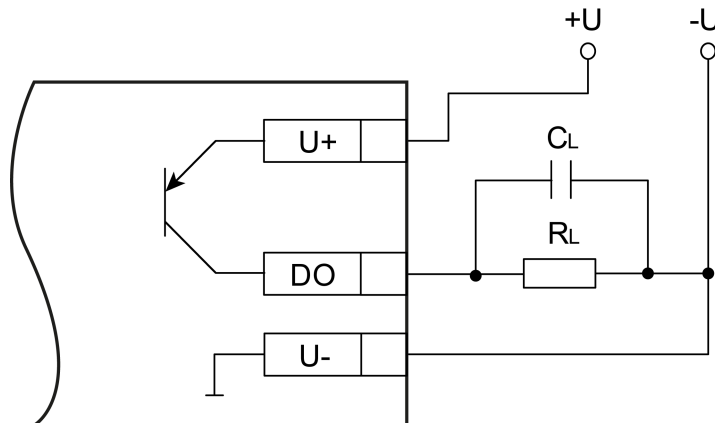

Fig. 4.2 Output wiring in high-side switching mode
- high-side switch (Fig. 4.2) — for switching loads with lower capacitance and higher current